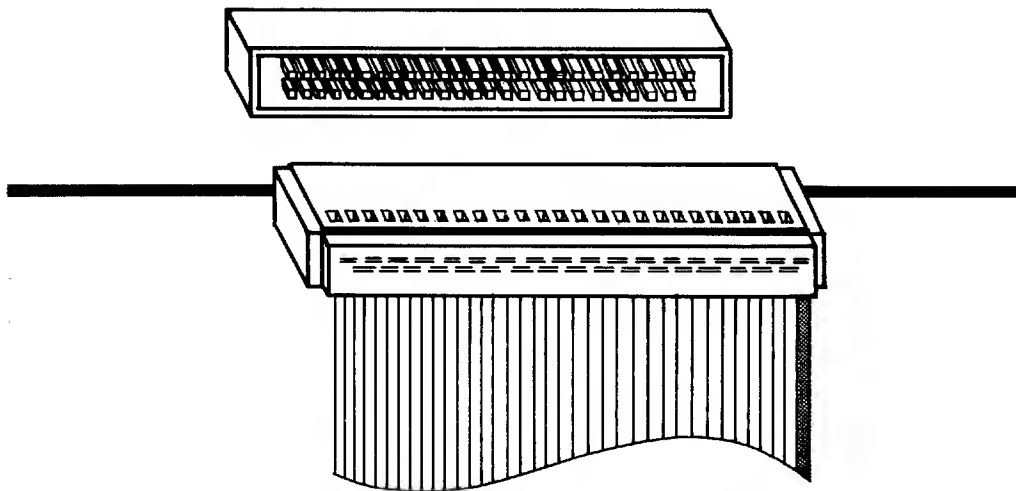

Figure 4-3: Parallel Printer Cable Connection
2. Make sure that the pin-1 indicator stripe is to the right. This stripe is generally red (see Figure 4-3).